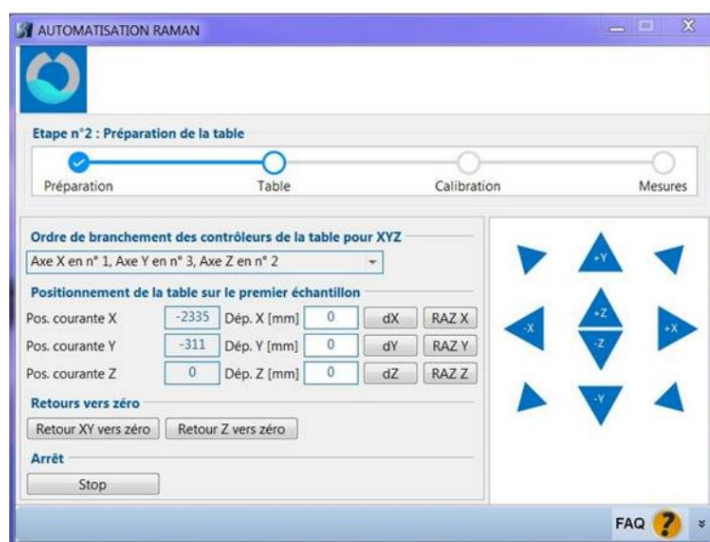

Figure 41. API software. Preparation of the Motorized table
21. When the position of the table is set, especially the Z-distance (identified in step 17) click on "Calibration" in the upper box of the window (Figure 41) to proceed to the next window (Figure 41).